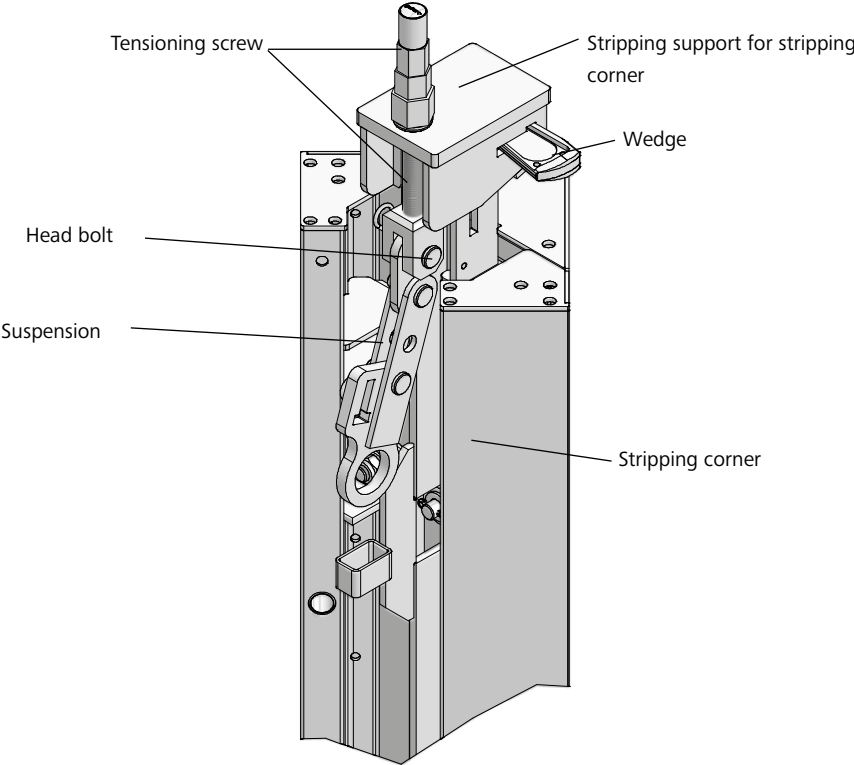

Fig. 51.3
1. Place the stripping support onto the connecting device at the top of the stripping corner. Make sure the suspension is inclined downwards (Fig. 51.3).
2. Connect the stripping support to the stripping corner with the head bolt 16/40 and cotter pin 4 that are both integrated into the tensioning screw of the stripping support (Fig. 51.3).
3. Lock the stripping support to the stripping corner by driving the stripping corner's wedge with a few hammer blows into the opening of the stripping support (Fig. 51.3).